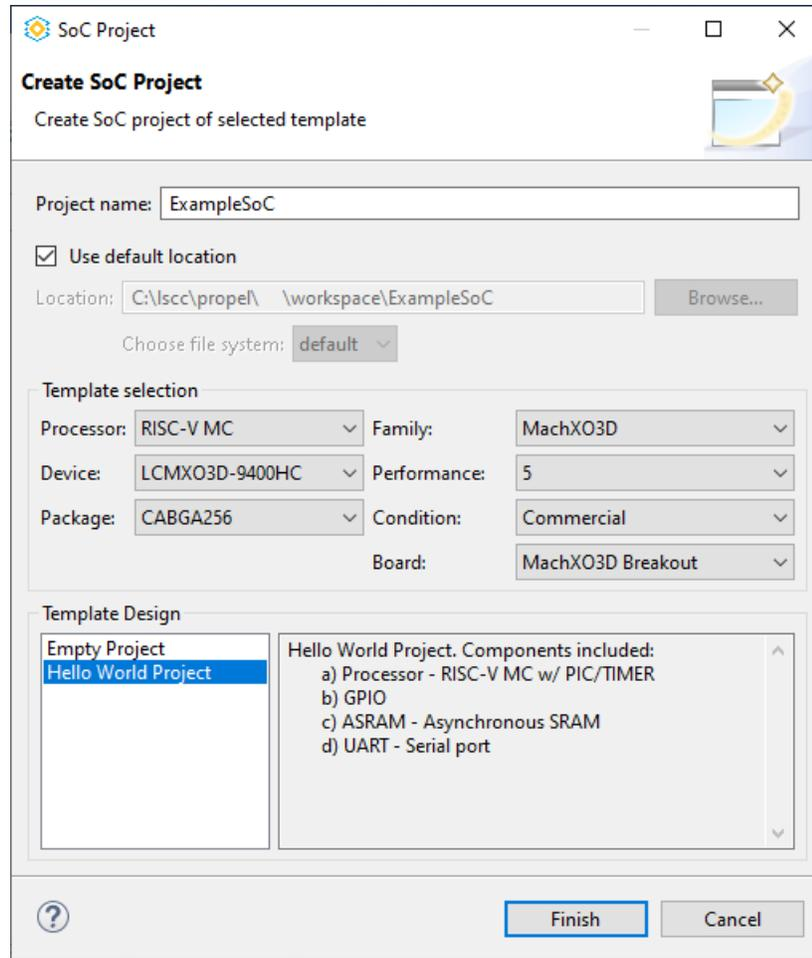

Figure 3.7. Create SoC Project Wizard
1. In Lattice Propel, choose **File > New >**  **Lattice SoC Design Project**. The **Create SoC Project** wizard opens (Figure 3.7).